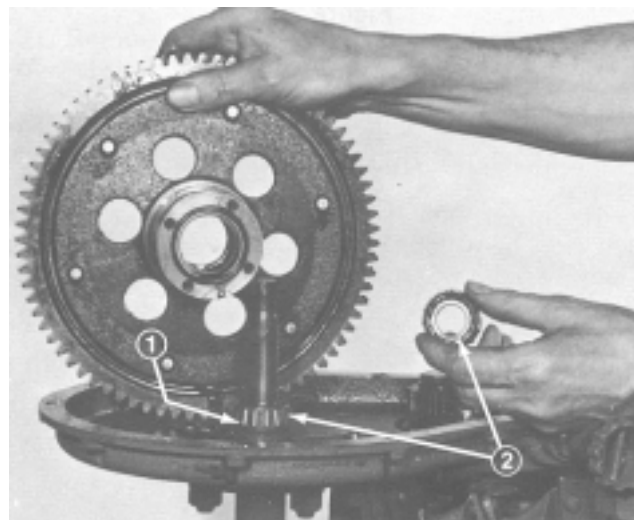

Figure 21
8. Remove inner cone and O-ring from axle shaft (Fig. 21).